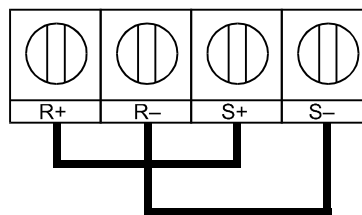

Fig. D.3 RS-485 Communication Connection
3. When using RS-485 communication, connect S+ to R+, and S- to R-, on the control circuit terminal board. See Fig. D-3 below.